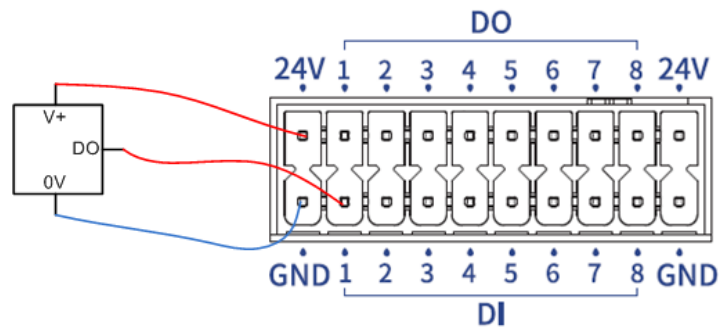

Figure 6.10 DI wiring (PNP DO)
2. When you use the DO terminal of an external device as the DI input, connect the cables as shown in Figure 6.10. This figure takes the PNP DO without power supply as an example. If the DO has a power supply, you do not need to connect V+.